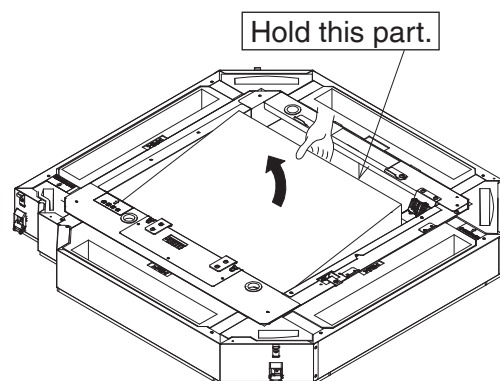

Figure 8
- (1) Remove the tapes securing the power supply and signal wires.
- (2) Remove the tapes securing the hooks (filter) (2 locations).
- (3) Remove the tape securing pleated filter (1).
- (4) Hold pleated filter (1) at the part indicated in **Figure 8** and pull it out. (Holding at another part may crush the pleats of pleated filter (1).)